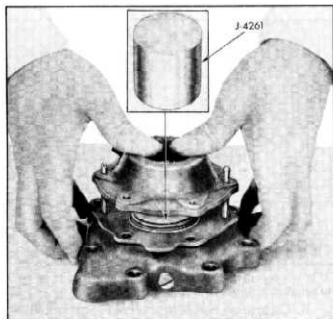

Fig. 97—Installing Modulator Cover
2. Install two 10-24x3" guide pins and install modulator cover (fig. 97). Install attaching screws and tighten securely.